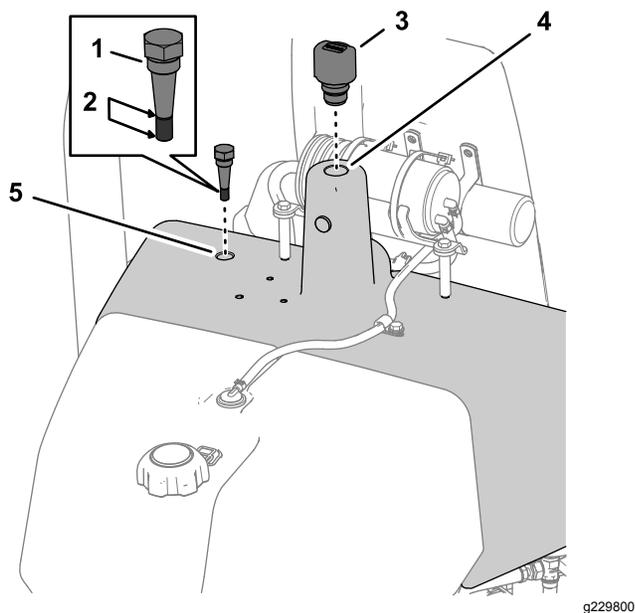

Figure 49
3. Unscrew the dipstick located at the top of the hydraulic tank, wipe the dipstick clean, install it, and remove it again (Figure 49).
4. If no oil is present on the dipstick, remove the cap from the filler neck of the hydraulic fluid tank (Figure 49) and slowly add the specified hydraulic fluid to the hydraulic tank until the fluid level is at the groove dipstick; refer to Hydraulic Fluid Specification (page 37).
5. Install the dipstick and the breather into the hydraulic tank (Figure 49).